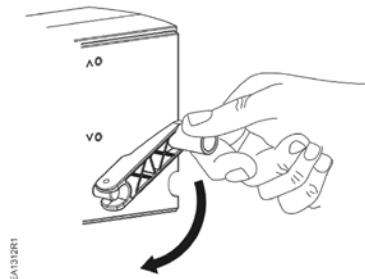

Figure 9.
1. Push the crank arm until it is parallel with the actuator, then turn the crank arm in the proper direction to engage the actuator stem connection with the valve stem. See Figure 9.